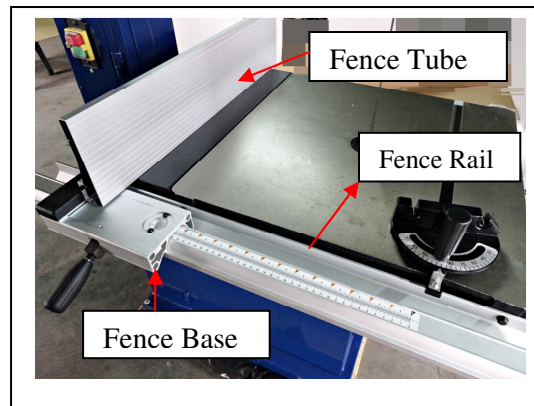

Figure 6
1. Install the fence rail to the table. Use (1) two M6 spring washers (2) two M6 hex head bolts (3) two M6 flat washers.(see Figure 6)
2. Place fence base on fence rail. Slide the fence on its guides until it is the required distance from the blade. Push lock lever down to secure fence in place.(see Figure 6)
3. Fix the fence face to the fence base.(see Figure 6)